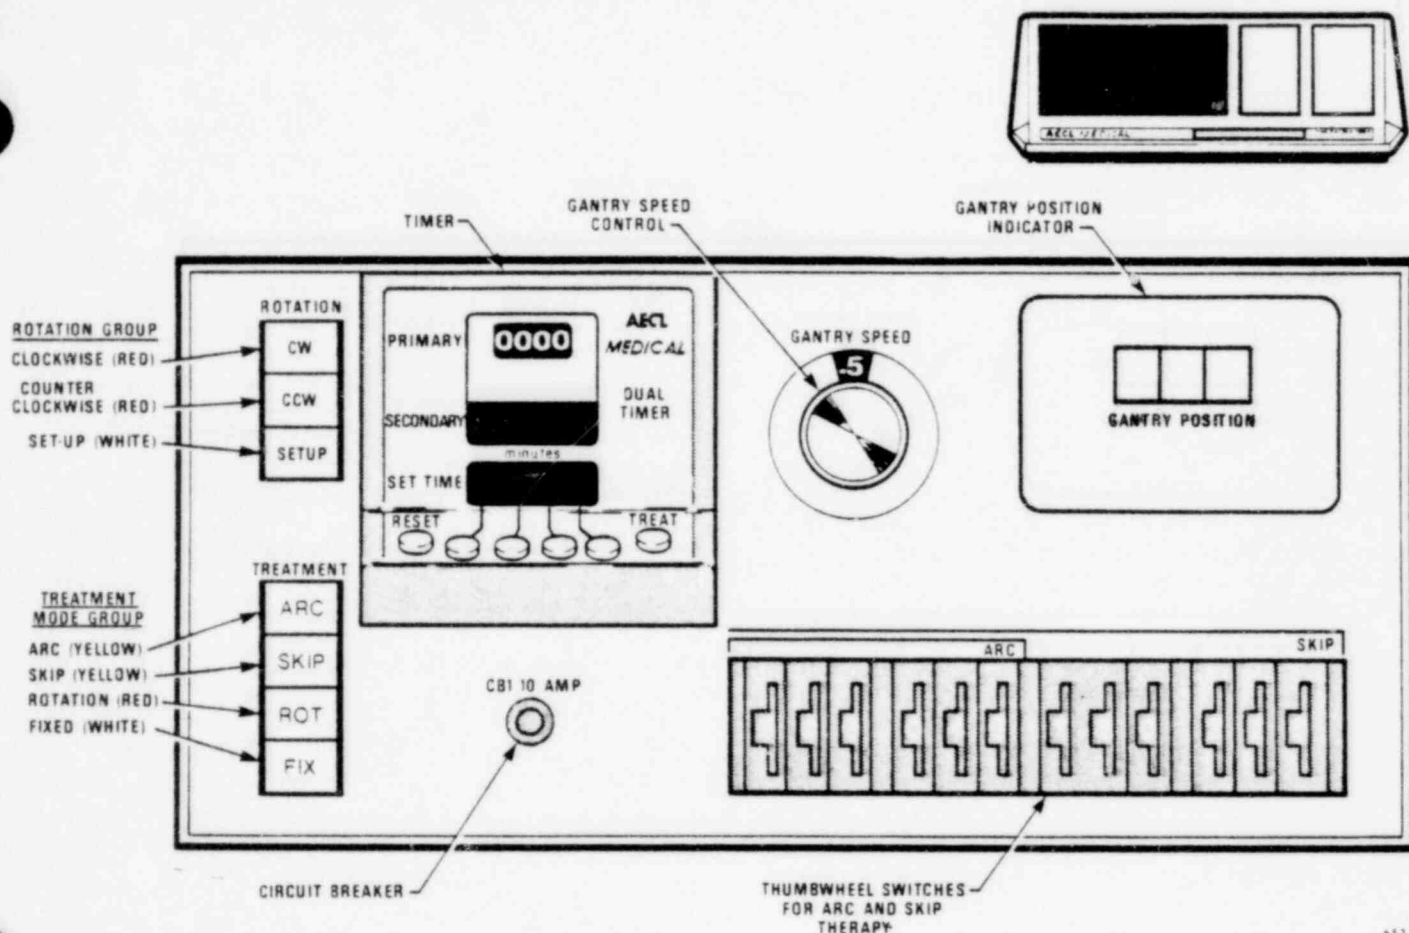

Fig. 3.3. Treatment Control Panel
**3.2.2 Treatment Control Panel (Fig. 3.3)**